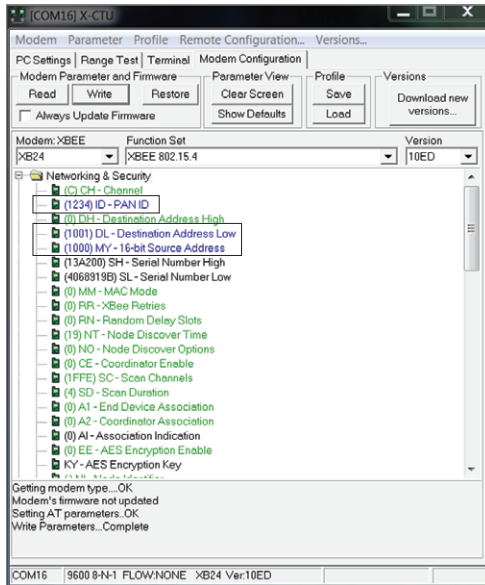

Figure 11-11: Settings written to XBee
- Click the Write button at the top of the window to write these values into your XBee. When you do this, those values should turn blue. Figure 11-11 highlights these values.